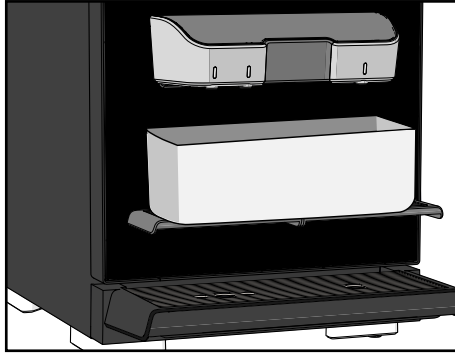

Figure 47.
14. Place the container under the coffee spout (see Figure 47).